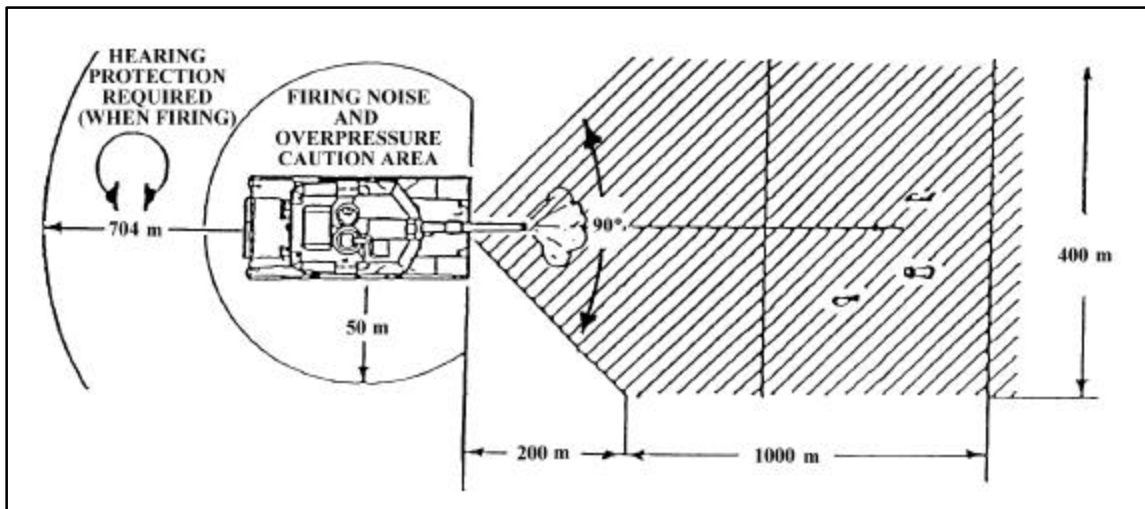

Figure B-15. Danger Areas Around a Tank Firing a 120-mm Gun
(1) Tanks need infantry on the ground to provide security in built-up areas and to designate targets. Against targets protected by structures, tanks should be escorted forward to the most covered location that provides a clear shot. On-the-spot instructions by infantry leaders ensure that the tank's fire is accurate and its exposure is limited. The tank commander may have to halt in a covered position, dismount, and reconnoiter his route forward into a firing position.
(2) When the tank main gun fires, it creates a large fireball and smoke cloud. In the confines of a built-up area, dirt and masonry dust are also picked up and added to this cloud. The target is further obscured by the smoke and dust of the explosion. Depending on the local conditions, this obscuration could last as long as two or three minutes. Marines can use this period to reposition or advance unseen by the enemy. Caution must be exercised, however, because the enemy might also move.
(3) A tank cannon creates an overpressure and noise hazard to exposed Marines. All dismounted Marines working near tanks should wear Kevlar helmets and protective vests, as well as ballistic eye protection. If possible, they should also wear earplugs and avoid the tank's frontal 60-degree arc during firing (Figure B-15).